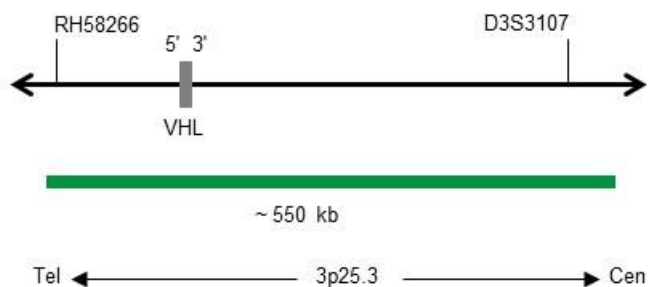

Fig. 1: SPEC VHL Probe map (not to scale)
- ZyGreen (excitation 503 nm/emission 528 nm) labeled polynucleotides (~10 ng/μl), which target sequences mapping in 3p25.3* (chr3:10,051,220-10,598,496) harboring the VHL gene region (see Fig. 1).